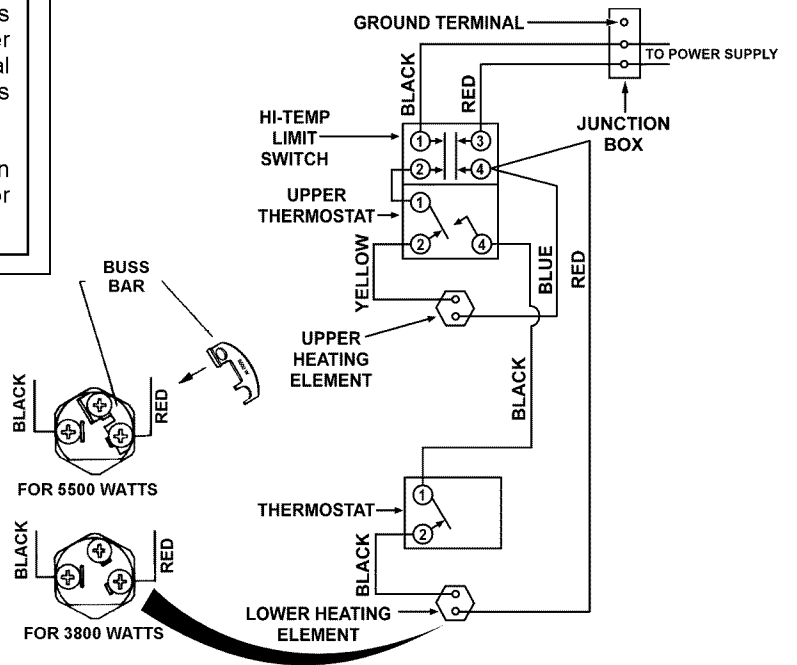

FIGURE 24.
5. A wiring diagram (Figure 24) has been provided to show the connections between the water heater and the power supply.